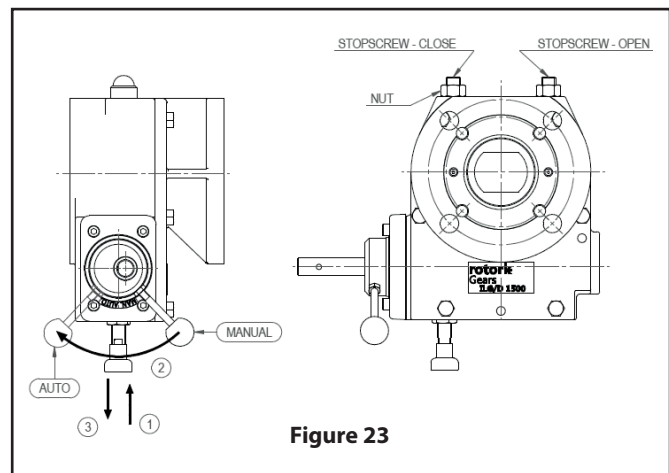

Figure 23
2. Put the gearbox in manual-mode by turning the handle counter clockwise as shown in **Figure 23** below. First pull the knob (1) then turn the selector (2) and then release the knob (3) and make sure it is engaged.
3. Turn the handwheel clockwise to put the gearbox/ valve in the fully closed position. When the fully closed position cannot be achieved, loosen the stop screw-close on the gearbox (**Figure 23**) and check the travel stop adjustment of the actuator. Once fully open is achieved, hand tighten the stop screw and secure with the lock nut.
4. Turn the handwheel counter clockwise to put the gearbox/valve in the fully opened position. When the fully open position cannot be achieved, loosen the stop screw-open on the gearbox (**Figure 23**) and check the travel stop adjustment of the actuator. Once fully open
2. To operate the valve with the handwheel, the gearbox must be put into manual mode. Refer to **Figure 23**:
- b. Pull the knob outwards (3) and hold the knob in this position.
- c. Turn the handle counter clockwise (2) toward "AUTO" and release the knob. Continue turning the handle until the knob falls back into locking position (1).
- a. Pull the knob outwards (3) and hold the knob in this position.